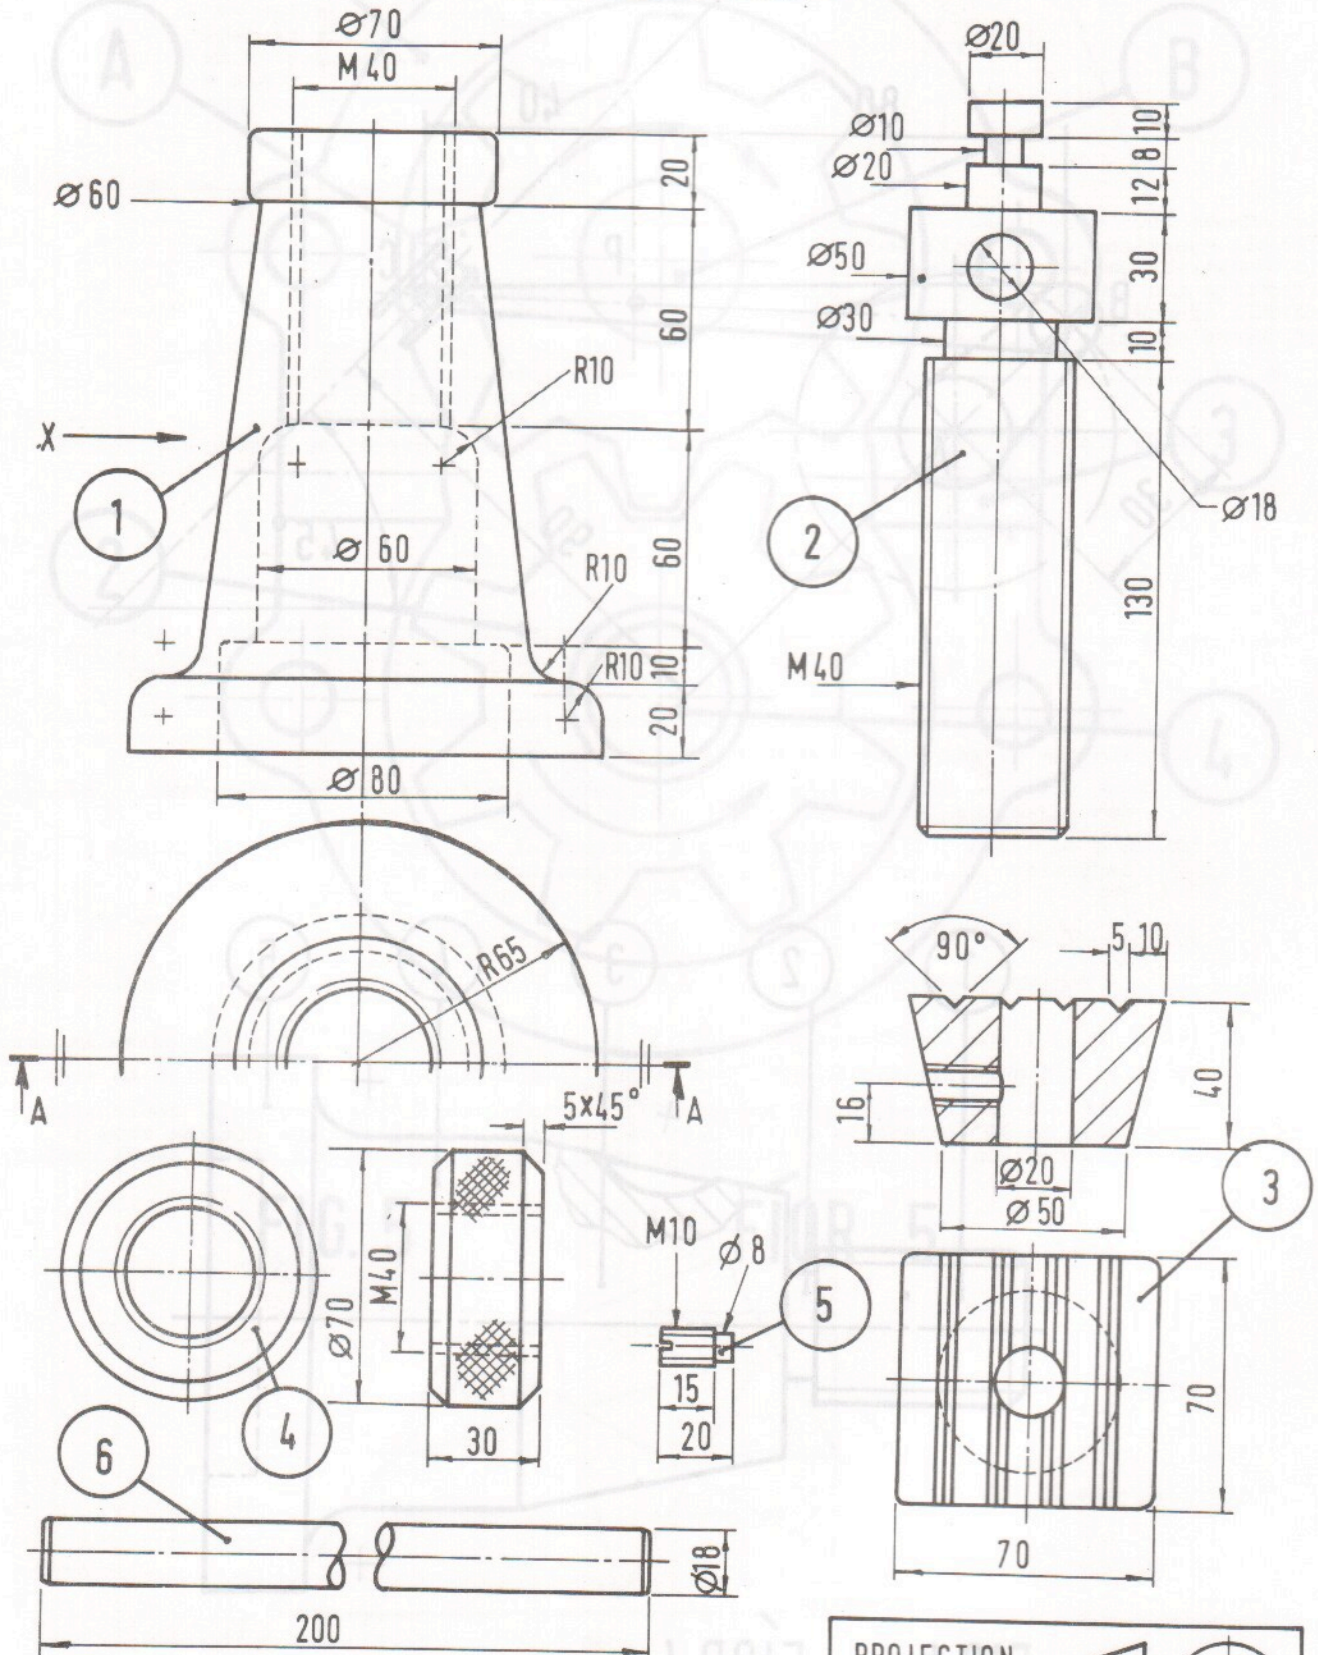

FIG. 1 FÍOR 1
1. Details of a SCREW JACK are given in Fig. 1 with the parts list tabulated below.